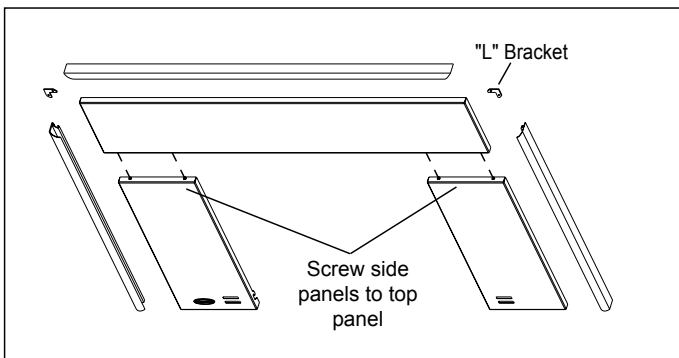

Figure 13.1
2. Secure panel set together with screws provided. **Figure 13.1.**
3. Assemble the trim pieces using the "L" brackets. **Figures 13.1 and 13.2.**